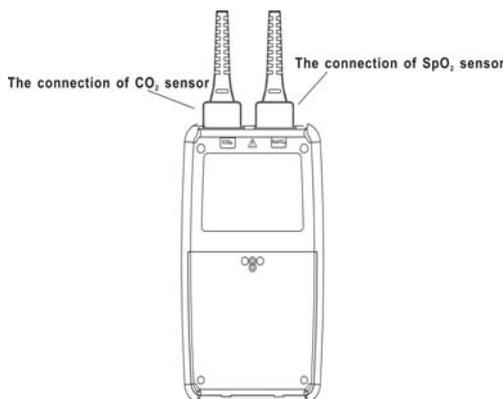

Figure 3-3: Installing sensors
2. Refer to Figure 3-3, Connect the sensor to the monitor socket.